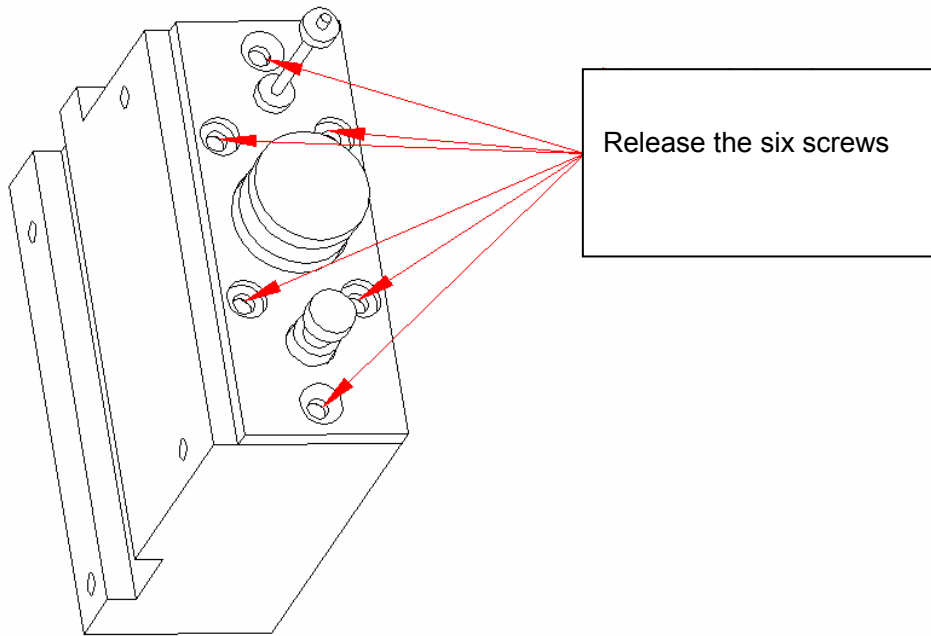

Figure 4-2-4
2) Release the four screws to fix the syringe base-board on the bottom of the syringe components, and you can pull the three pistons from the main body of the sampling syringe, as shown in Figure 4-2-4: